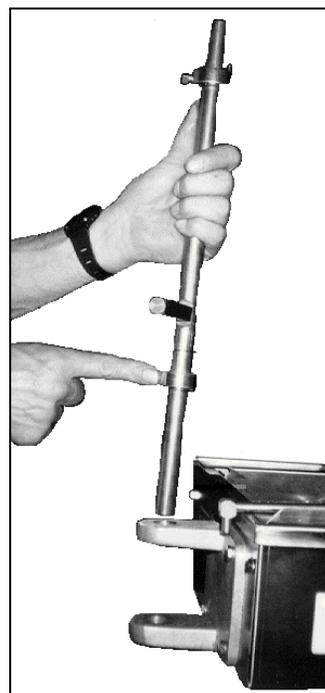

Figure 1-3. Inserting the Swing Column.
7. Insert the swing column into the swing column-mounting bracket. Make sure the plastic spacer washer is on the swing column between the set collar and the swing column-mounting bracket. (See Figure 1-3.)